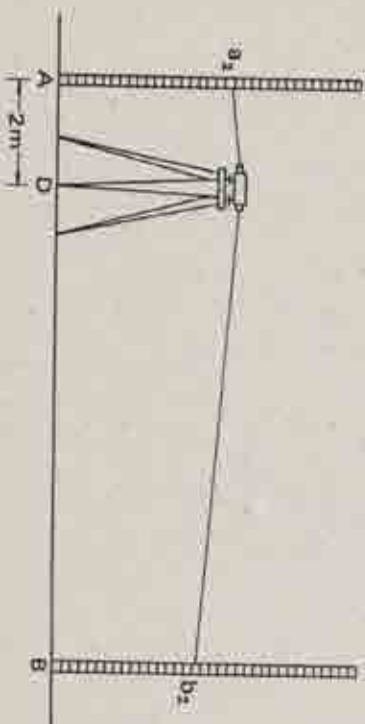

Fig. 15
- (3) Set the instrument at point D about 2 m from point A (Fig. 15).